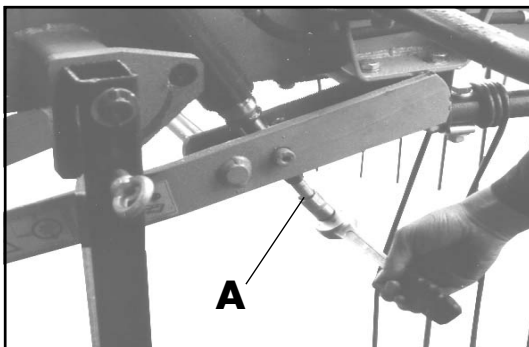

Figure 3-2
- With adjusting spindle "A" (figure 3-2) adjust the implement to be horizontal/slightly tilted forwards. During operation, lock the bottom link hydraulically to ensure there is still sufficient clearance for the cardan shaft!